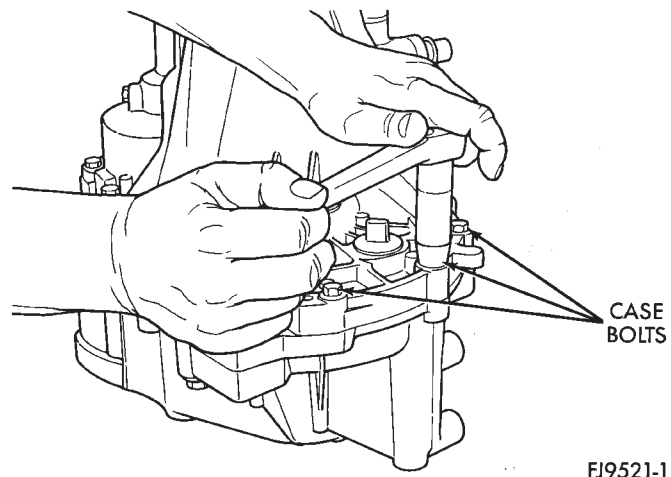

Fig. 39 Case Bolts
- (1) Place transaxle on bench.
- (2) Remove shift levers. Remove transaxle case half bolts (Fig. 39).